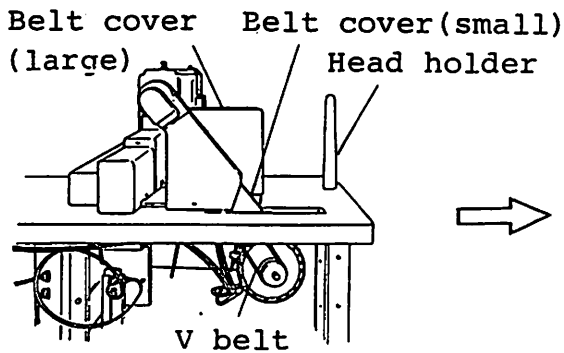
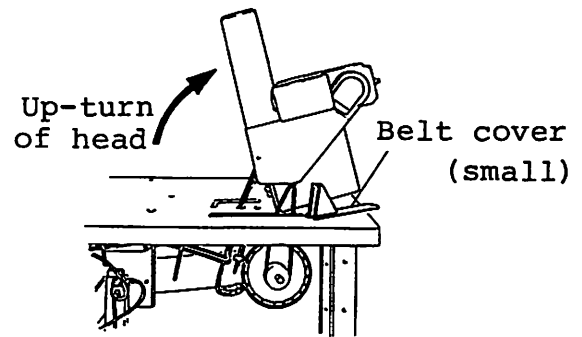
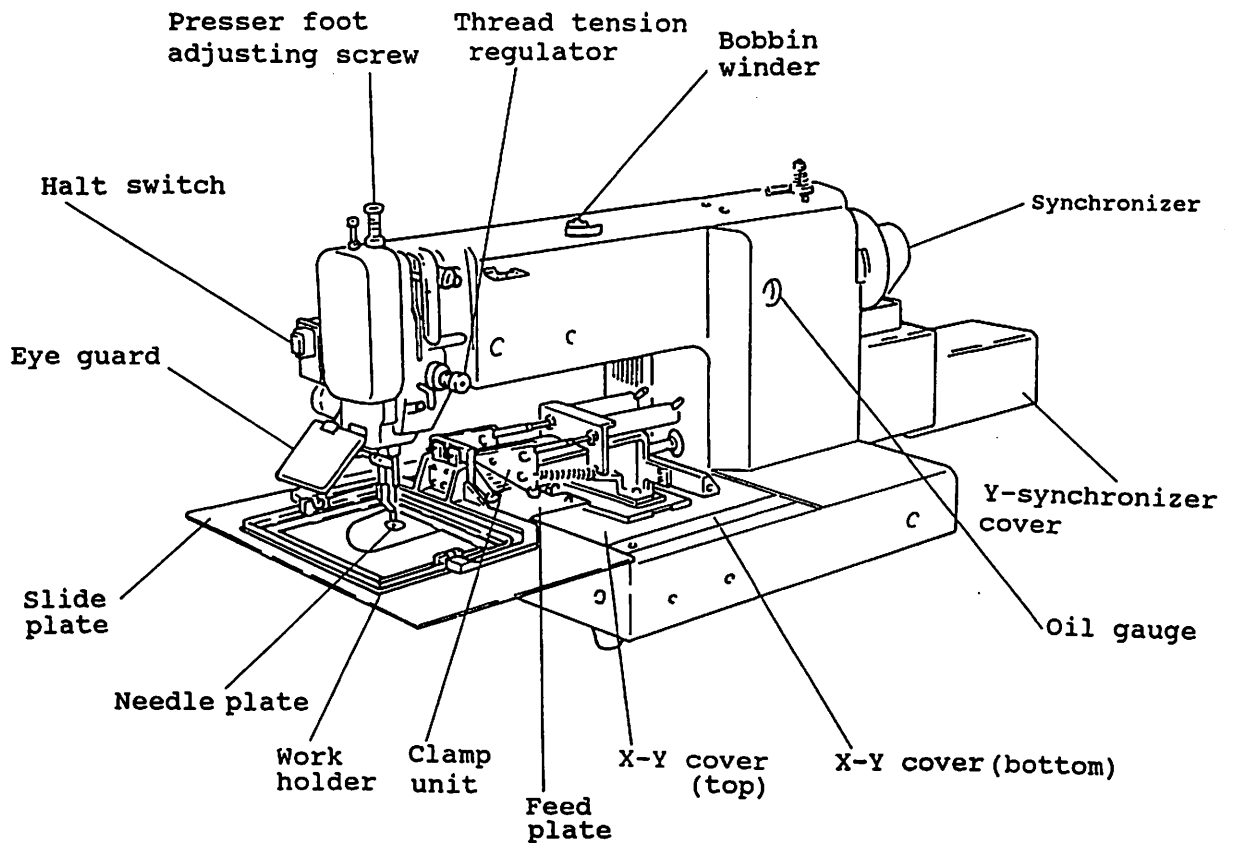

Fig. 6.1
Fig. 6.2
Fig. 7.1
- ① Before turning up the head (see Fig. 6.2), fix X-Y cover (upper, see Fig. 7.1) with the adhesive tape, etc. in order to prevent it sliding down with its own weight.
- ② Remove beforehand the V belt which is connected to 7 type sewing machine motor because the belt will disturb the up-turn of head as it is raised higher.
- ③ Place a holder of head on the table (Fig. 6.1). Since the belt cover (small) interferes with the head when it is raised, remove beforehand the cover by loosening set screws.